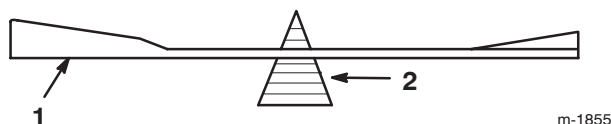

Figure 34
2. Check the balance of the blade by putting it on a blade balancer (Fig. 34). If the blade stays in a horizontal position, the blade is balanced and can be used. If the blade is not balanced, file some metal off of the back side of the blade. Repeat this procedure until the blade is balanced.